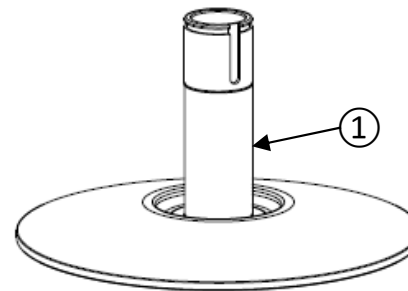

Figure 24
The shaft cannot be disassembled from the fixed sheave ① (figure 24).